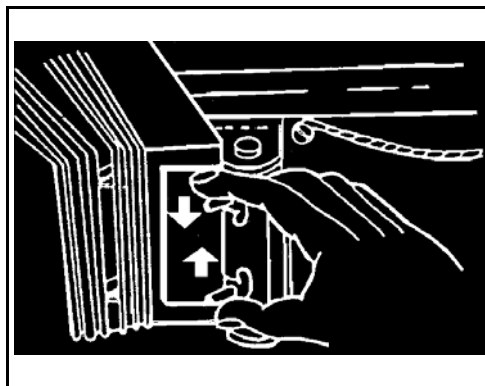

Figure 6. Latches.
(1) Squeeze the AP chute latches (Figure 6).